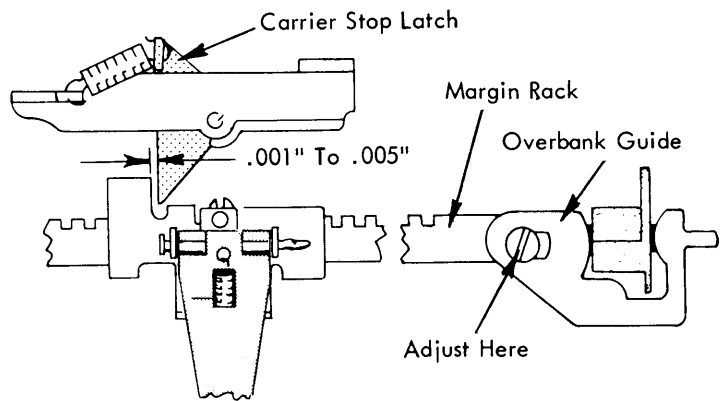

FIGURE 139. Margin Rack Overbank Guide Adjustment
- b. New Style - With the carrier resting at the left margin stop, adjust the margin rack overbank guide (Fig. 139) left or right on the margin rack to obtain a clearance of .001" to .005" between the stop latch on the carrier and the left hand margin stop. On machines equipped with a floating stop latch, the floating action of the latch must be removed, by pulling the latch to the right with a spring hook, before this clearance can be observed.